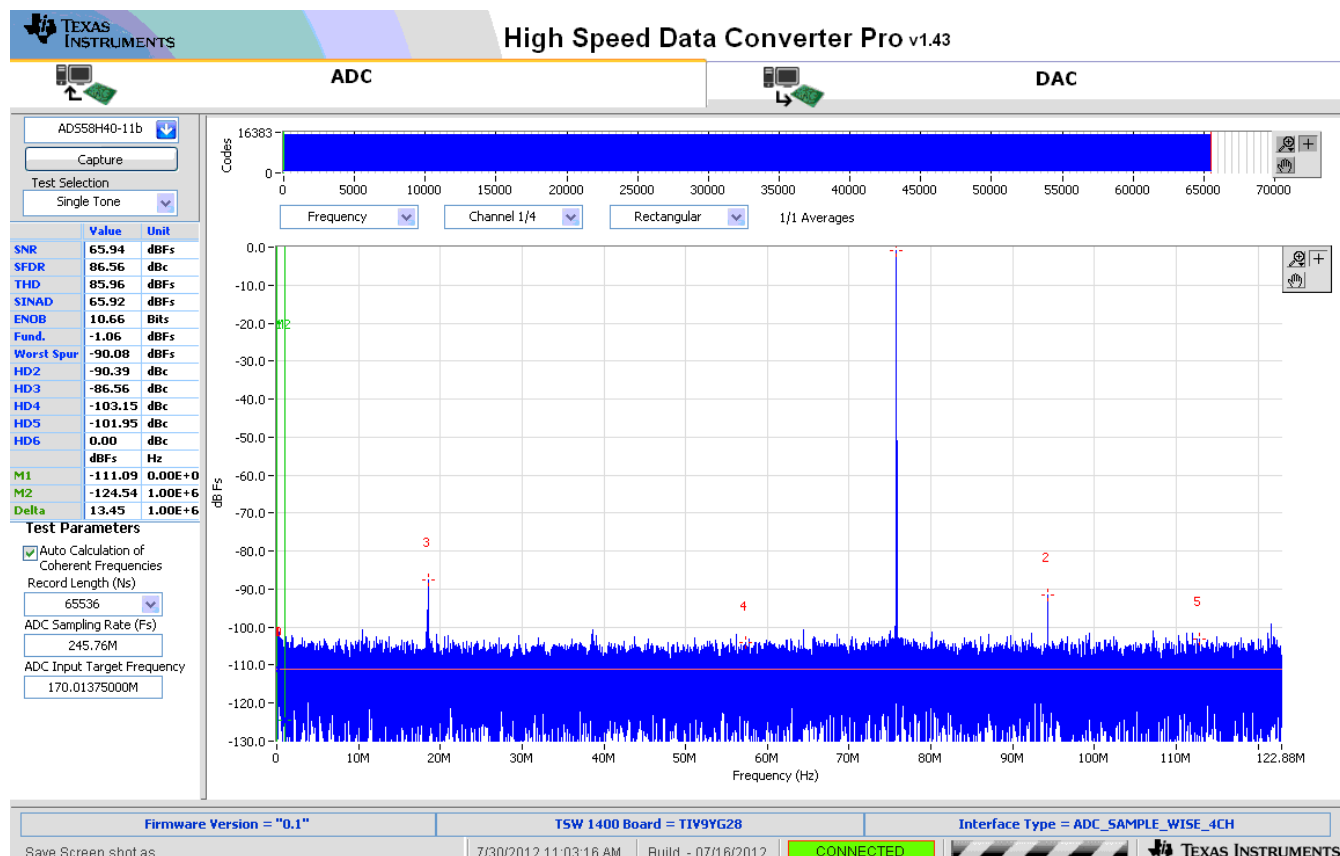

Figure 11. ADS58H4x 11-bit Operating Mode, Single Tone Test Result: $F_s = 245.76$ MSPS, $F_{in} = 170$ MHz
4. Select the number of sample points (and resulting number of FFT bins). The example shown in Figure 11 has 65536 samples.
5. Enter the ADS58H4x sampling rate. The example shown in Figure 11 has the sample rate set at 245.76 MSPS.
6. Enter the input frequency desired. If the clock and input frequency signal generators are synchronized, then make sure the checkbox for coherent frequency is checked and set the input frequency signal generator to the input frequency displayed. The example shown in Figure 11 has the input frequency set at 170 MHz.
Observe an FFT result similar to that of Figure 11.